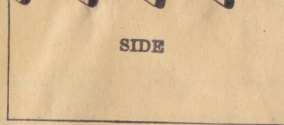

FIG. 3
- B. If the teeth are of uniform size and correct shape as shown in Fig. 2 and Fig. 3 operations 2 and 3 will be omitted. Proceed with operations 4 "Setting" and 5 "Filing."
Fig. 2 illustrates the bevel obtained in correctly sharpening a cross cut saw. Fig. 3 shows a correctly sharpened rip saw.